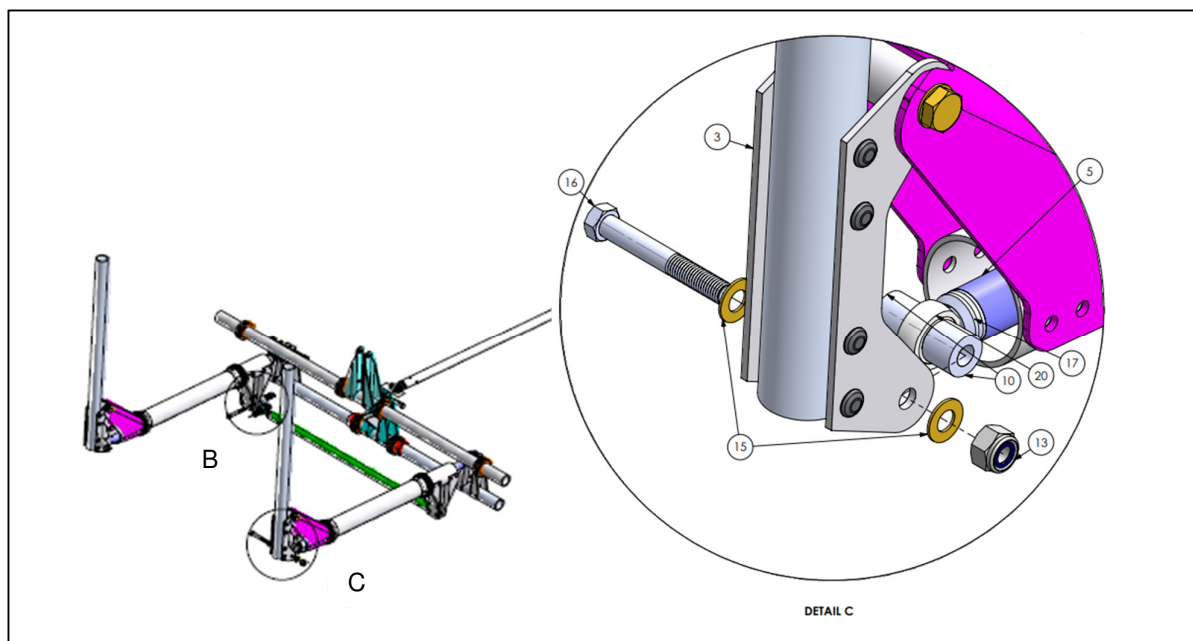

Figure 12: Eyebolt assembly, Detail C
- Step 4. To replace the eyebolts seen in Detail C of Figure 12, remove the AN4 locknut (13) and bolt (16). The eyebolt should then be uninstalled from the pushrod (5). A *type 1* or *type 2* eyebolt should then be installed on the pushrod.
- Step 5. Reassemble the eyebolt assembly by reversing the procedure in Step 4, refer to Figure 12 for component placement.